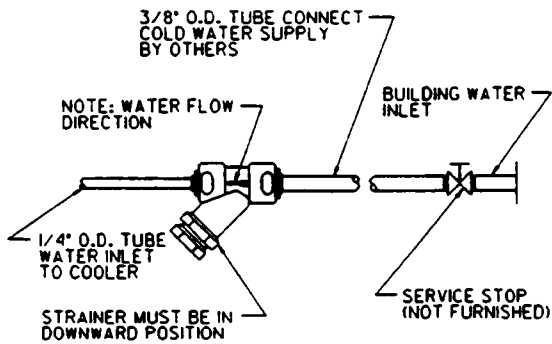

FIG. 8
6. Remove bottom access panel from fountain basin and save the screws. Install the fountain to the back panel and wall using four (4) 5/16" x 2" (51 mm) long lag bolts and washers (not provided) through holes in back panel. Tighten securely.
8. Make water supply connections from service stop to the fountain Y-strainer. Insert water line to positive stop approximately 3/4" (19 mm) on inlet side of Y-strainer. (See figure 8). Turn on water supply and check for leaks. Newly installed water supply line should be insulated after leak check is completed.
6. Remove bottom access panel from fountain basin and save the screws. Install the fountain to the back panel and wall using four (4) $\frac{5}{16}$ " x 2" (51 mm) long lag bolts and washers (not provided) through holes in back panel. Tighten securely.
8. Make water supply connections from service stop to the fountain Y-strainer. Insert water line to positive stop approximately $\frac{3}{4}$ " (19 mm) on inlet side of Y-strainer. (See figure 8). Turn on water supply and check for leaks. Newly installed water supply line should be insulated after leak check is completed.
6. Remove bottom access panels from fountain basin and save the screws. Install the fountains to the back panel and wall using four (4) $\frac{5}{16}$ " x 2" (51 mm) long lag bolts and washers (not provided) for each fountain through holes in back panel. Tighten securely.
8. Make water supply connections from service stop to the fountain Y-strainer. Insert water line to positive stop approximately $\frac{3}{4}$ " (19 mm) on inlet side of Y-strainer. (See figure 8). Turn on water supply and check for leaks. Newly installed water supply lines should be insulated after leak check is completed.